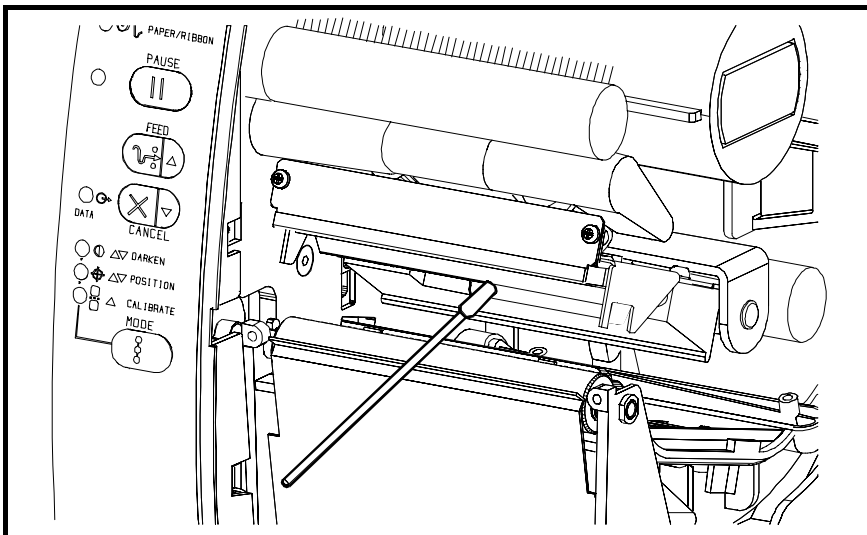

Figure 16 Printhead Cleaning
To clean the printhead, refer to Figure 16 and follow these steps:
4. Moisten an applicator tip with Zebra Technologies Corporation recommended solvent and wipe along the print elements from end to end. (The print elements are the grayish/black strip just behind the chrome strip. See Figure 16). Allow a few seconds for the solvent to evaporate.